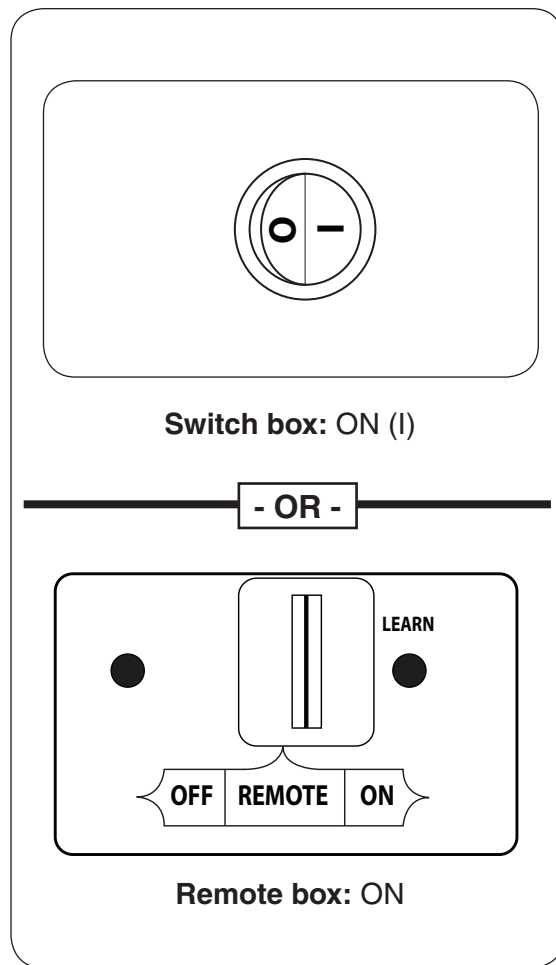

Fig. 13-1 Manual lighting
1. **Switch Box Models:** Locate the ON/OFF switch at the front of the switch box. Press the switch to the **ON (I)** position. See Fig. 13-1.
Remote Box Models: Locate the 3-position switch on the remote receiver (see Fig. 13-1), and slide the switch to the **ON** position.